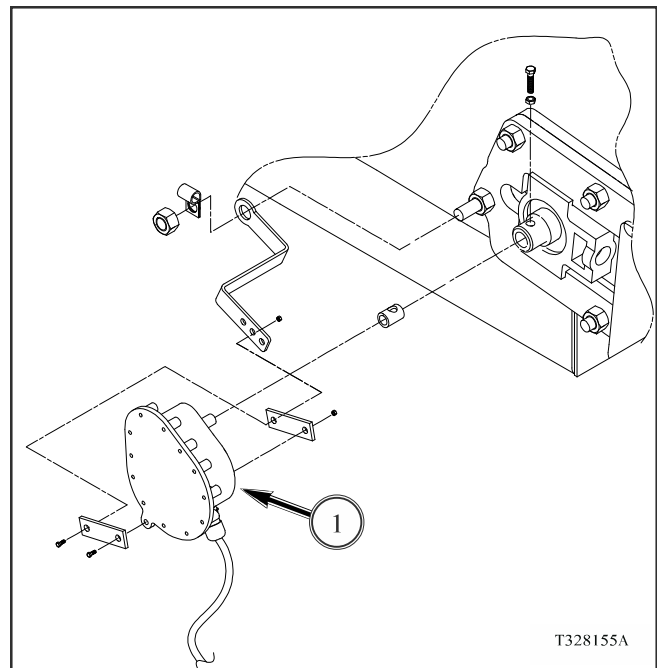

FIG. 18
FIG. 18: A conveyor rate sensor (1) is mounted on the front conveyor shaft for each conveyor chain and sends a signal into the cab to tell the rate controller the speed of each conveyor chain. With proper programming, the controller converts the chain speed into the volume of product. During normal operation with both conveyors on, the rate controller uses the signal from the left rate sensor to control the system and only reads the right side rate sensor to be sure they are both operating at the same speed. When the left conveyor is turned off the rate controller uses the signal from the right side rate sensor to control the system.